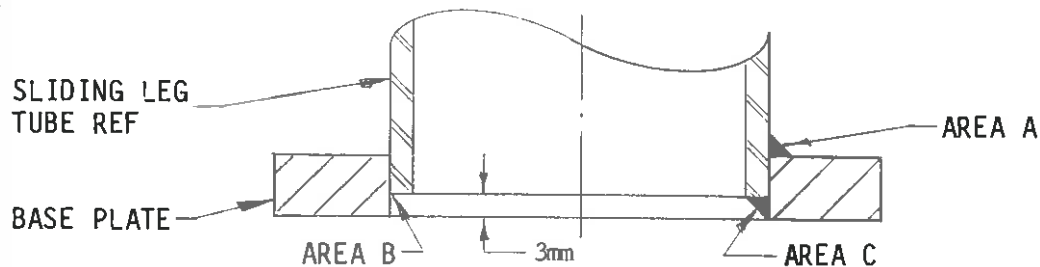

FIG. 2
3.1 With reference to Fig. 2, area A:
3.2 With ref. to Fig. 2, area B, grind or machine away metal to produce a 90° angle between the bottom of the tube and the inner diameter of the base in the rectangular plate to a depth of 3mm.